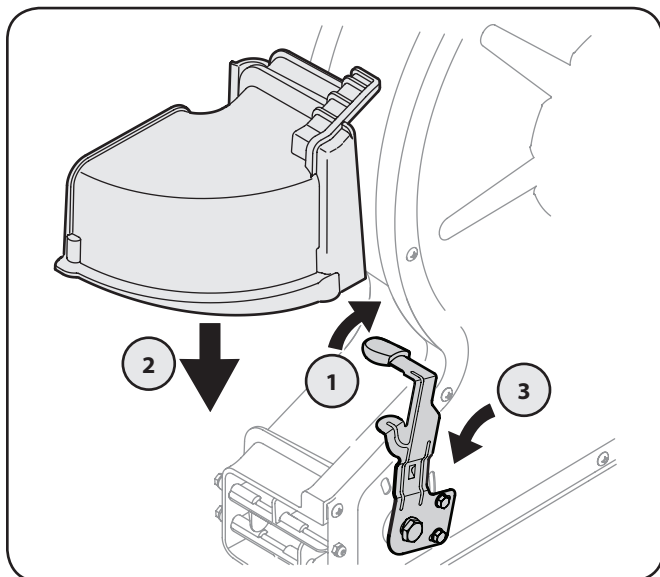

Figure 3-3
1. Pivot the blower direction lever all the way to the right, into the highest position. See Figure 3-3.
3. Pivot the direction lever to the middle position to lock the chute attachment in place. See Figure 3-3.